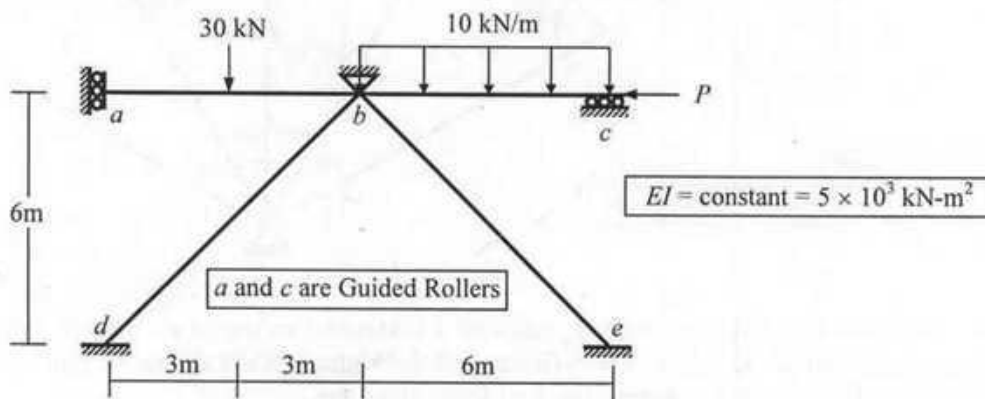

Fig. 5
10. Use Stiffness Method to calculate the unknown joint deflections and rotations of the frame *abcde* loaded as shown in Fig. 5, considering flexural deformations only (if the force  $P = 0$ ).
11. Use Stiffness Method to calculate the force  $P$  needed to cause buckling of frame *abcde* shown in Fig. 5, considering flexural deformations only with geometric nonlinearity.
12. Use consistent-mass matrix (considering flexural deformations only) to calculate the natural frequencies of the frame *abcde* shown in Fig. 5, if it weighs  $3.0 \text{ kN/m}$ .